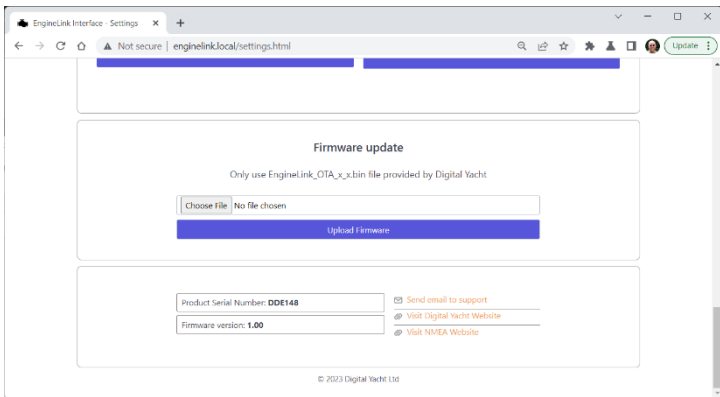

Figure 16
- Firmware Update and About Information (Fig 16)
At the bottom of the Settings page (see Fig 16), are details of EngineLink’s Firmware version. We try to avoid firmware updates but sometimes it is necessary to fix a bug or add an important new feature. You can refer to the version number here to see what firmware your unit is running and then check on Digital Yacht’s support website to see if there are any updates.